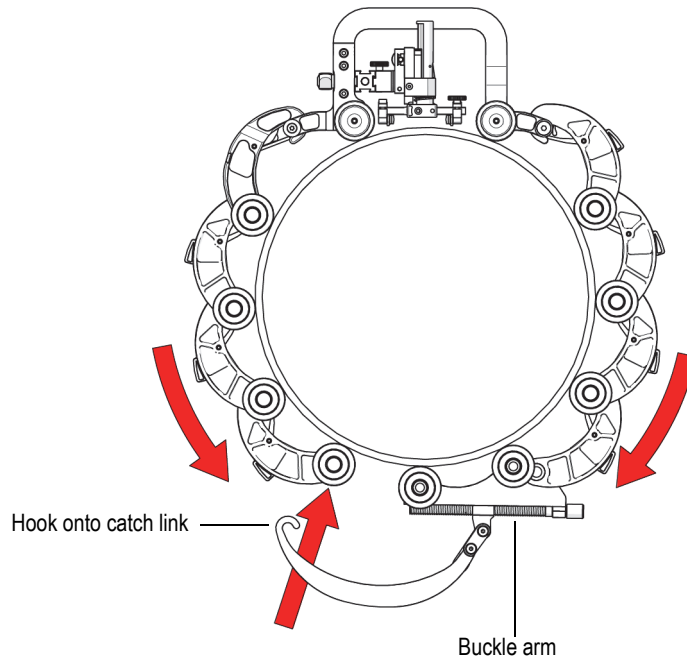

Figure 2-3 Hook buckle arm to catch link
9. Drape the configured chain assembly around the pipe or tube to be inspected (see Figure 2-3 on page 33).
10. Bring the buckle arm towards the catch link (see Figure 2-3 on page 33).
11. Hook the buckle arm to the middle axle of the catch link (see Figure 2-3 on page 33).